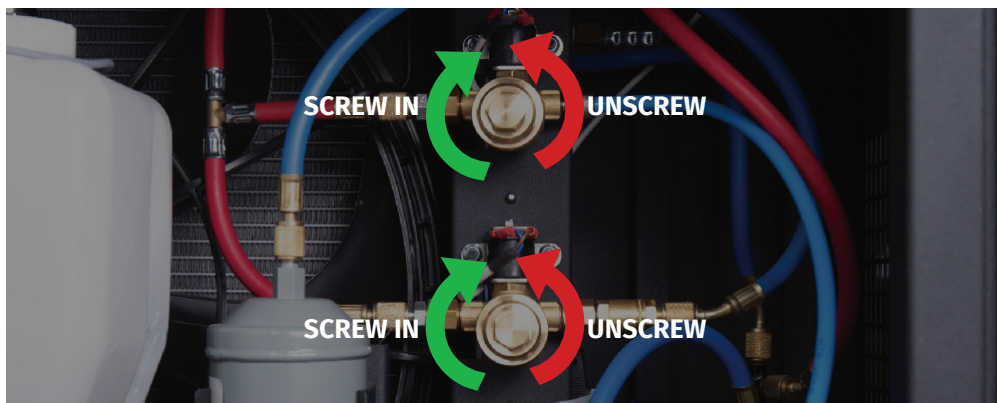

Figure 41. Direction of the cover rotation when replacing filter MS0102
- every fourth replacement of the left filter element MS0101 should be followed by replacement of both filter elements MS0102 (Fig.41);